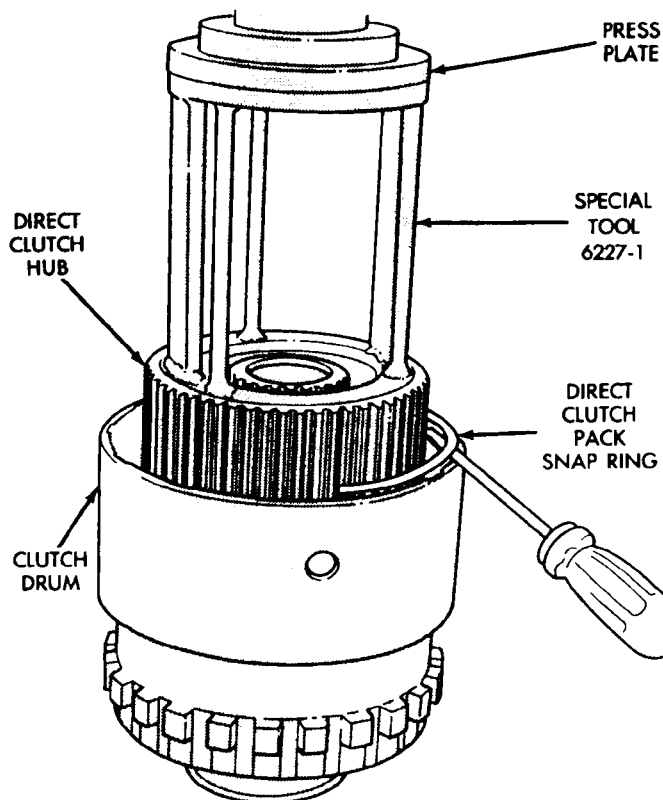

Fig. 22 Direct Clutch Pack Snap Ring Removal
- (7) Mount geartrain in shop press
(8) Position Compressor Tool 6227-1 on clutch hub (Fig. 22). Support output shaft flange with steel press plates as shown and center assembly under press ram.
(9) Apply press pressure slowly. Compress hub and spring far enough to expose clutch hub retaining ring and relieve spring pressure on clutch pack snap ring (Fig. 22).
(10) Remove direct clutch pack snap ring first (Fig. 22).